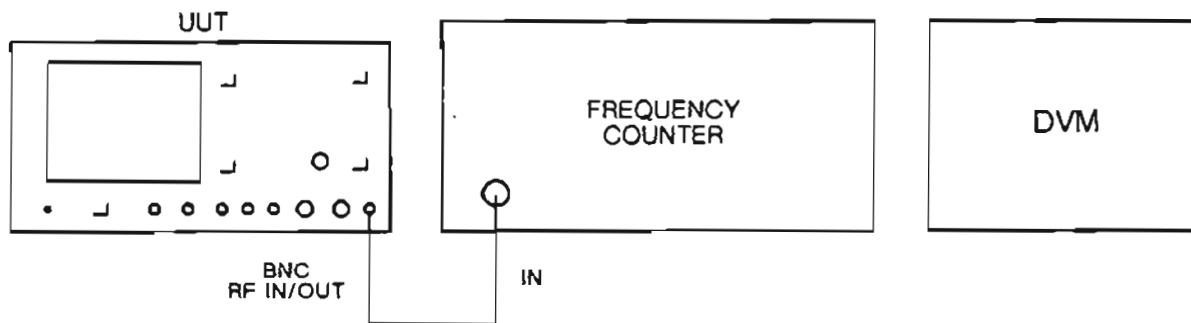

Fig. 4 Test equipment connections for adjusting C79 on AA4
- (1) Connect the equipment as shown in Fig. 4.